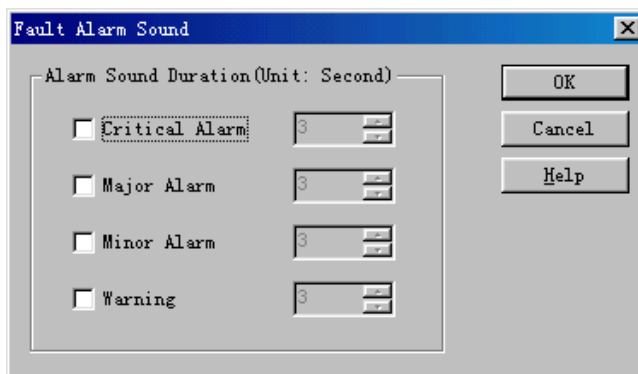

Figure 5-1 Fault Alarm Sound dialog box
- 1) Select **Management -> Fault Alarm Sound** to display the **Fault Alarm Sound** dialog box as shown in Figure 5-1.